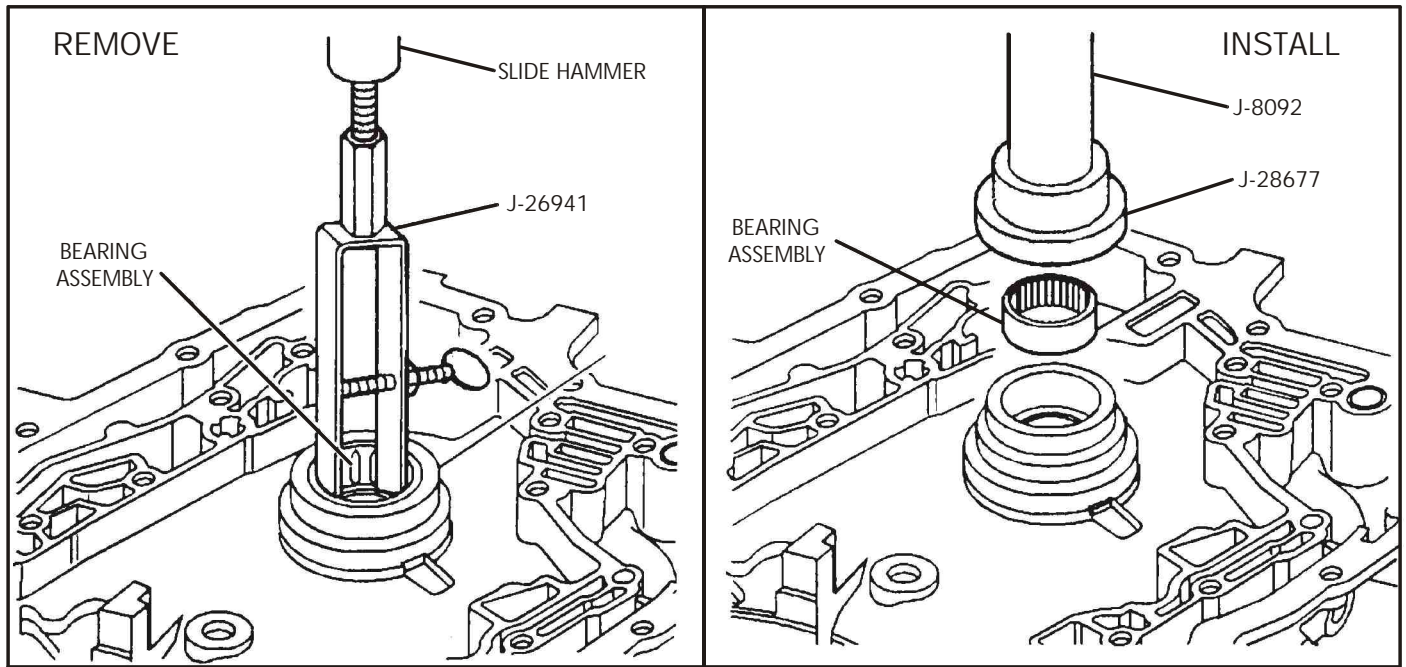

Figure 80
4. If bearing replacement is necessary, use bearing puller and installation tools shown in Figure 80 to remove and replace the bearing.